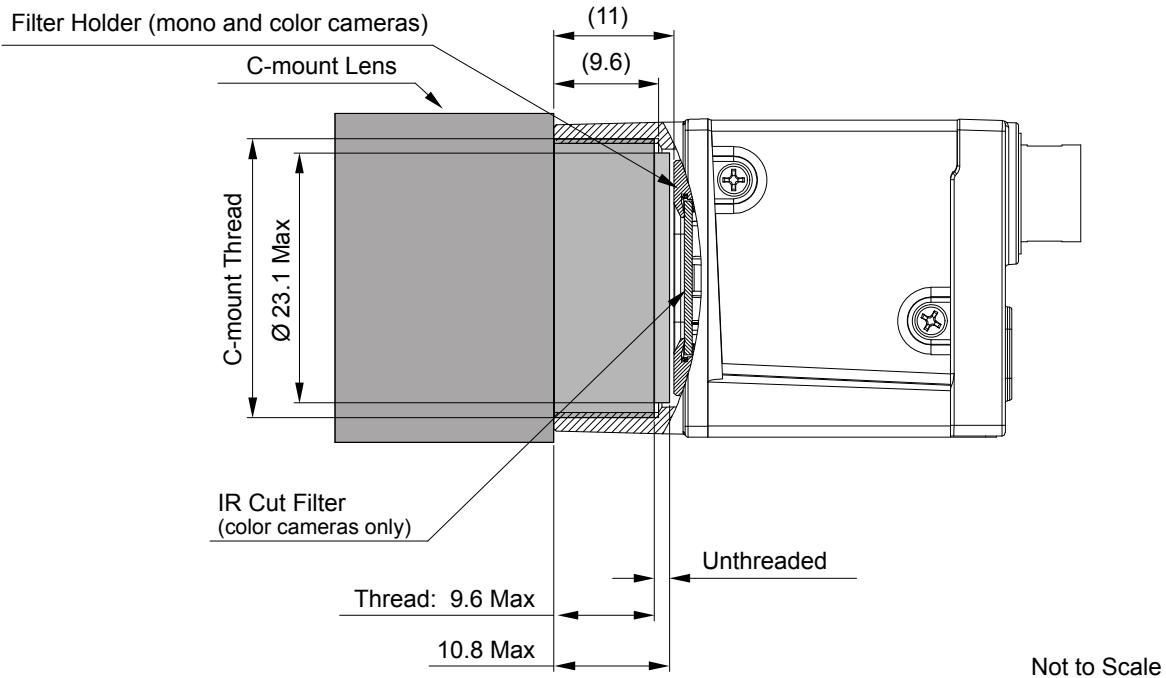

Fig. 28: Maximum Lens Thread Length (Dimensions in mm) for Cameras with the C-mount
- Camera with C-mount (see Figure 28):